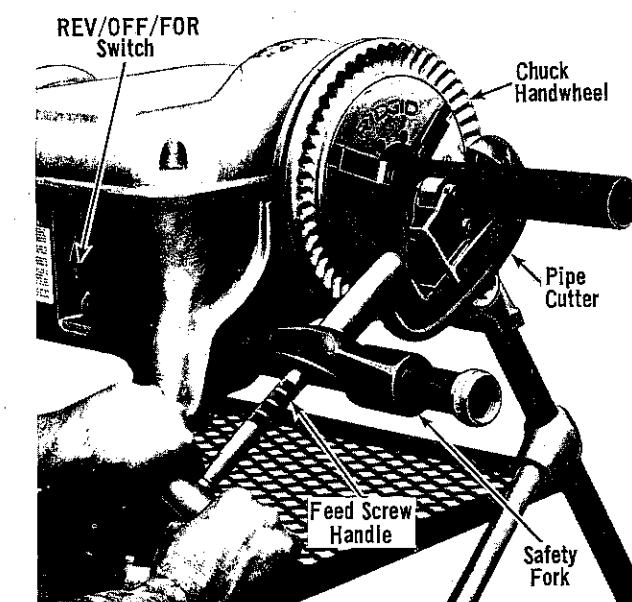

Figure 5. Cutting Pipe with Hand Cutter.
3. Rest Pipe Cutter Frame on Support Bar and hook Safety Fork over Handle (Fig. 5). Tighten Feed Screw Handle.
6. Continuously tighten Feed Screw Handle (Fig. 5) with both hands until pipe cutoff is completed.